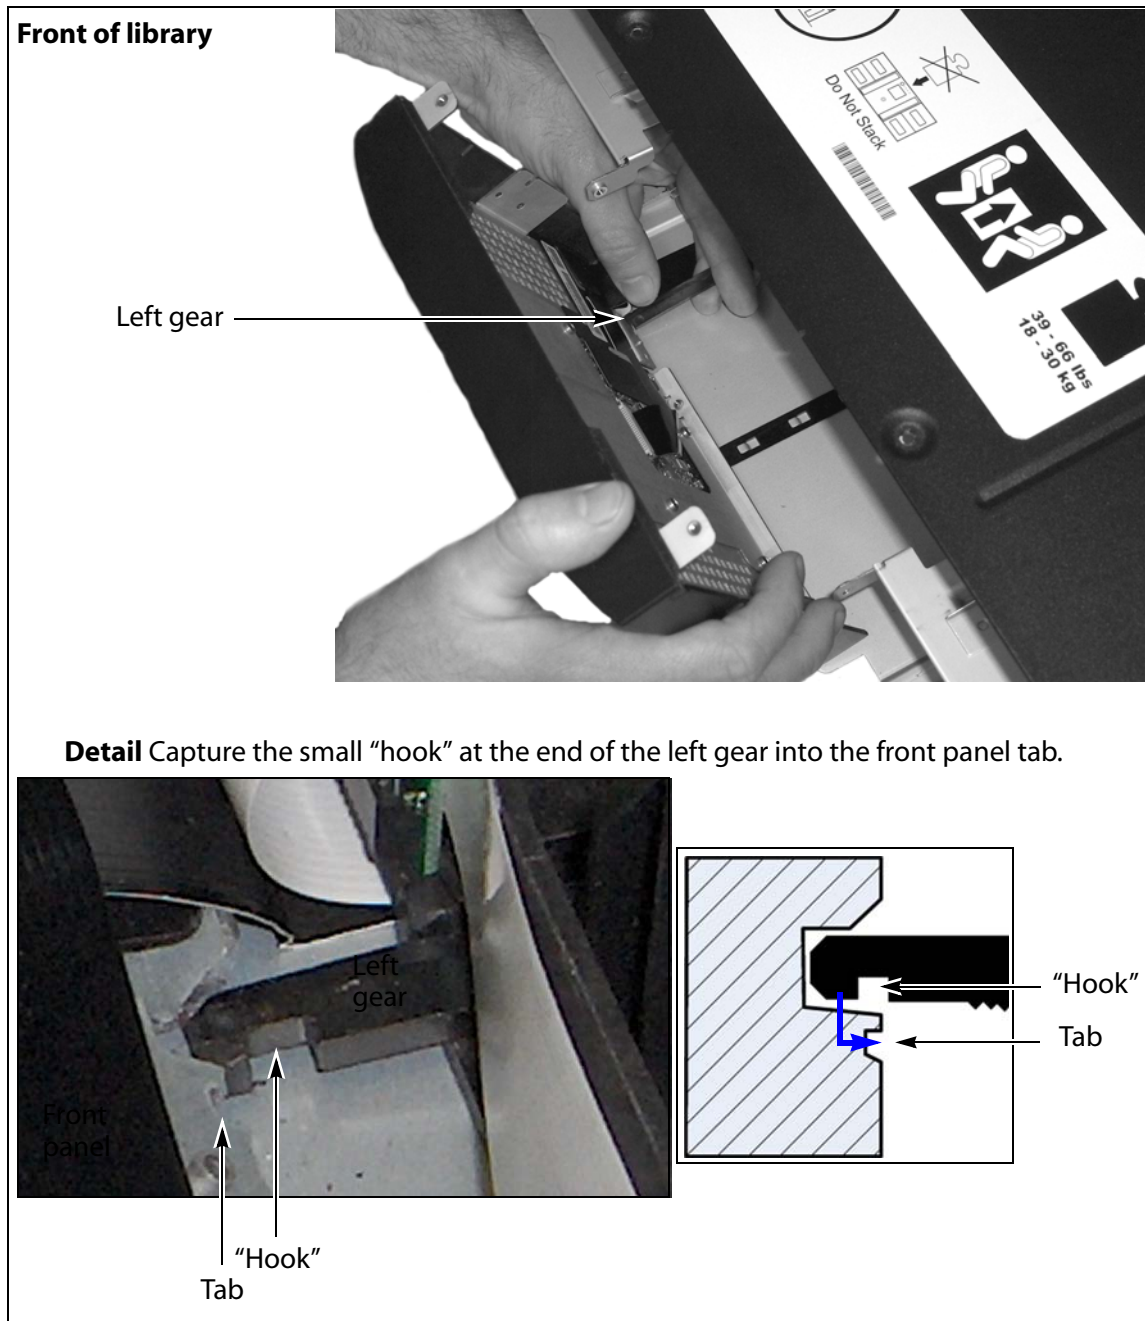

Figure 5-13 Secure the gear to the front panel.
- b. Reach in and secure the left gear to the front panel, as shown in Figure 5-13.